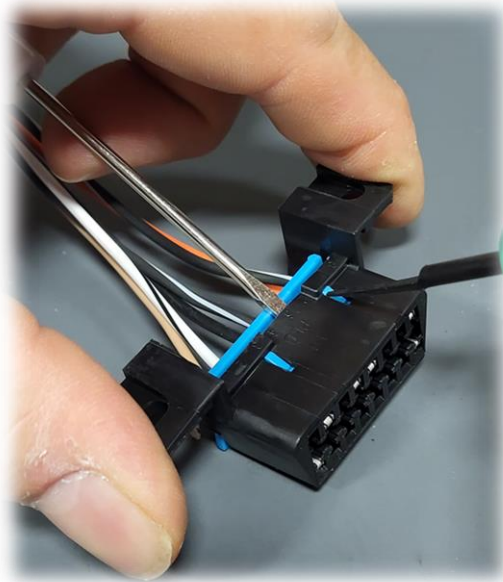

Figure 26
24. Remove the two terminal retention tabs from the OBD2 port. Using a small screwdriver pry up lightly on the plastic and push the tabs down and back. The retention tab will slide out the back. See Figure 26.